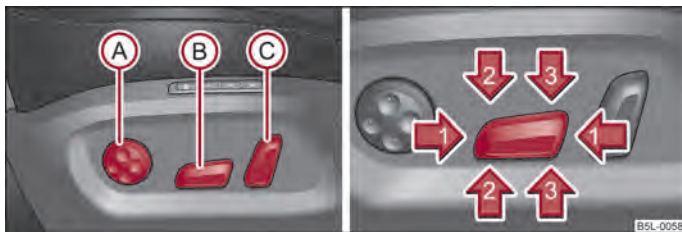

Fig. 45 Side view: Controls for adjusting the seat/seat setting switch
- Press the switch **(B)** ⇒ fig. 45 forwards or backwards in the direction of arrow **(1)**.